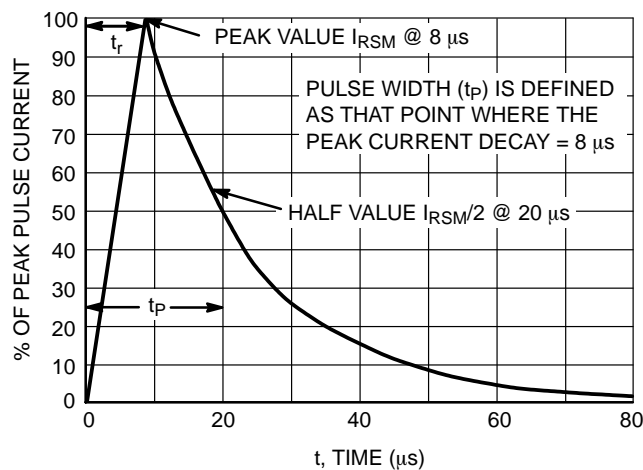

Figure 11.  $8 \times 20 \mu s$  Pulse Waveform
1. Non-repetitive current pulse per Figure 11